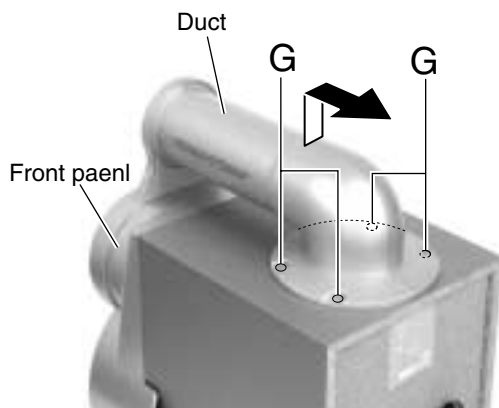

Fig.7
■ **Removing the duct (See Fig.7)**